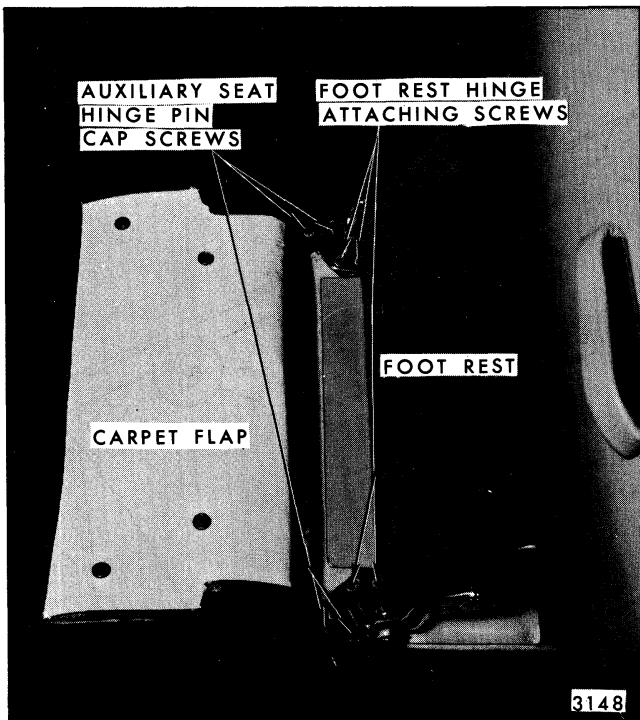

Fig. 9-72-Auxiliary Seat Assembly - Removal and Installation
2. Move rear seat footrest rearward; then unsnap carpet flap. Move footrest forward and carefully pull carpet flap from under footrest as shown in Figure 9-72.
3. Remove footrest hinge attaching screws and remove footrest assembly (Fig. 9-72).
4. Remove auxiliary seat hinge pin cap screws; then remove cap and auxiliary seat assembly (Fig. 9-72).